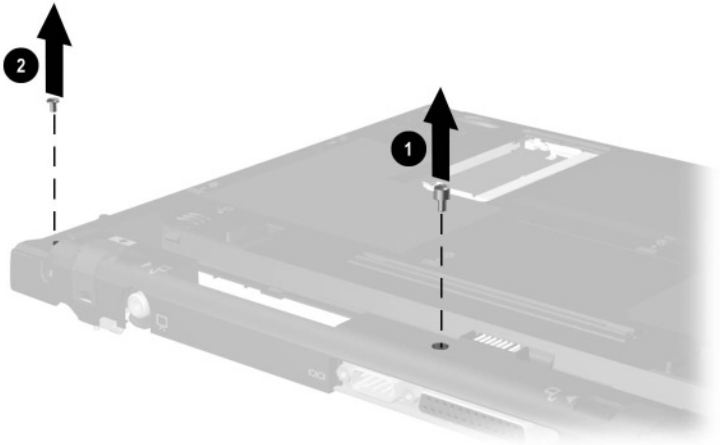

Figure 5-30. Removing the System Board Screw
5. Remove the PM2.0 × 7.0 barrel screw ❶ that secures the system board to the base enclosure (Figure 5-30).
6. **Evo Notebook N410c models only**—Remove the PM2.0 × 4.0 screw ❷ that secures the system board to the base enclosure.